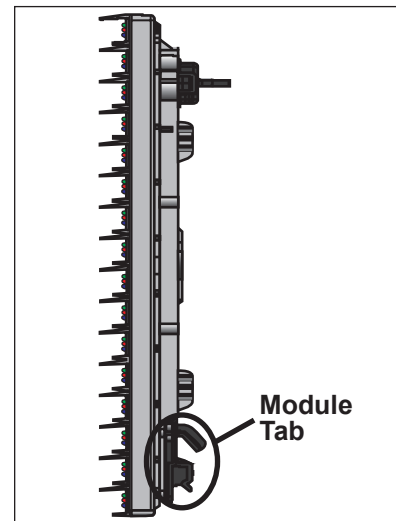

Figure 16: Tab on Back of Module
8. Place modules back into their proper locations by inserting the tabs at the bottom of the modules in the corresponding slots on the display face sheet, as shown in **Figure 16**. Tip the top of the module back into place and latch it by turning the hex head wrench a quarter-turn clockwise.